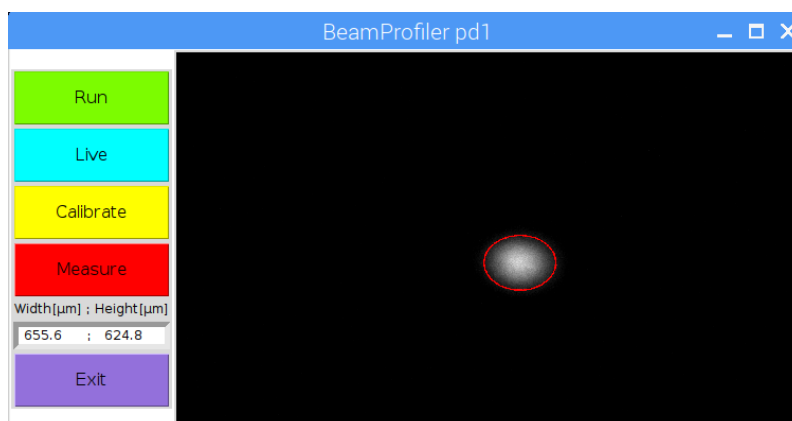

Fig. 3: Software of the BeamProfiler pd1
- **RUN:** For visualization of the laser beam press the **RUN** button (Fig. 3). Adjust the laser with lowest power and start with maximum attenuation by ND filters to avoid a damage of the camera sensor. With the ND filter slides make final intensity adjustments to the beam for a good signal modulation and dynamic range.